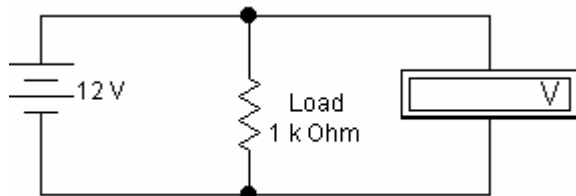

Fig.1 Measurement of Voltage
- For **Voltage** connect the leads of Multimeter in parallel with Load as shown in fig 1